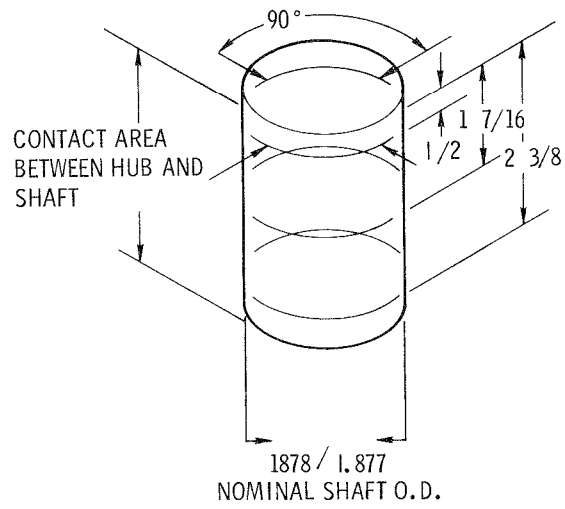

Figure 2.
e. Record outside diameter of new drive shaft, as shown in Figure 2. Nominal shaft diameter is 1.878/1.877 inches.